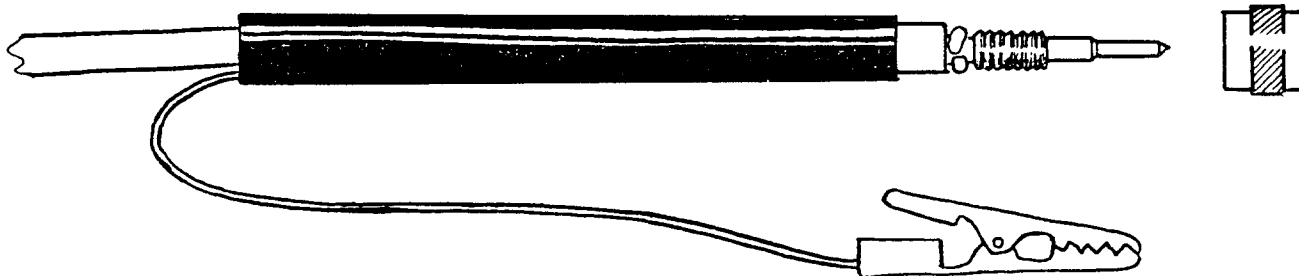

Fig. 15
2. ( ) Fig. 15. Adjust the flat wire braid to a position parallel to the shielded lead and flat against it, the free end of the braid pointing toward the remaining long length of lead. Unscrew the collar from the tip of the red audio probe housing, and slide end A of the shielded lead through the housing until the inner conductor protrudes from the small hole in the tip. Wind the exposed inner conductor around the tip in the clockwise direction and then screw on the collar tightly to secure it. Finally, solder an alligator clip to the free end of the flat wire braid.